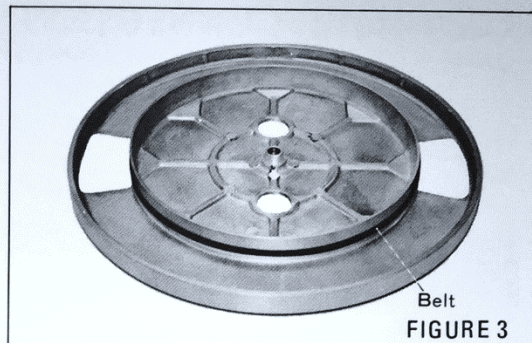

FIGURE 3
2. Loosen the two Transit Screws (B) which clamp the chassis to the base. When sufficiently loosened, the screws will snap up to their maximum position and the chassis will ride freely on its springs. NOTE: If the turntable is to be shipped or transported, the motor clamping screws must be replaced and tightened as well as the chassis clamping screws.
4. Carefully lower the turntable platter onto the center spindle. Slowly turn the platter in a clockwise direction until the motor shaft is centered in one of the two large openings in the platter. (See Figure 2) Set the speed changeover lever to 33-1/3. Clean your hands of all oil and grease to avoid contamination of the belt. Grasp the belt (See Figure 3) and slip it over the motor pulley as in Figure 2.